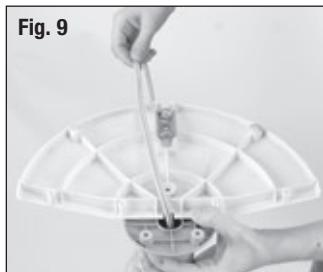

Fig. 9
- With the fan in the upside down position, pass the power cord through the recessed slot located in the center of the rear base assembly (Fig. 9).